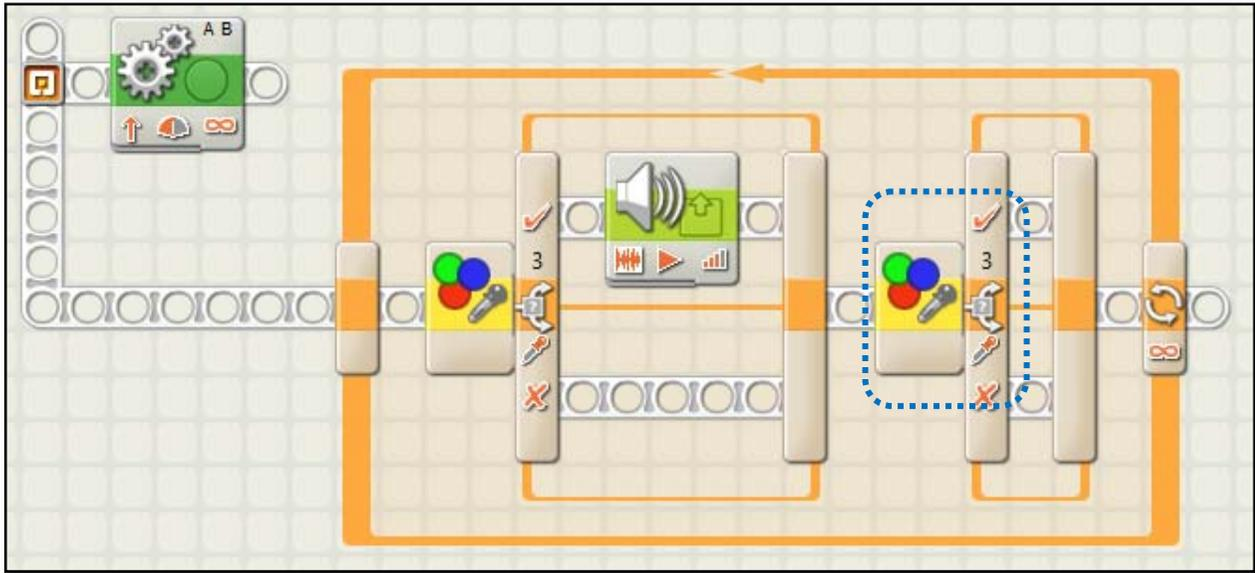

Figure 22 Second switch block
**Step 8.** Drag and drop another Switch into the Loop block (figure 22).